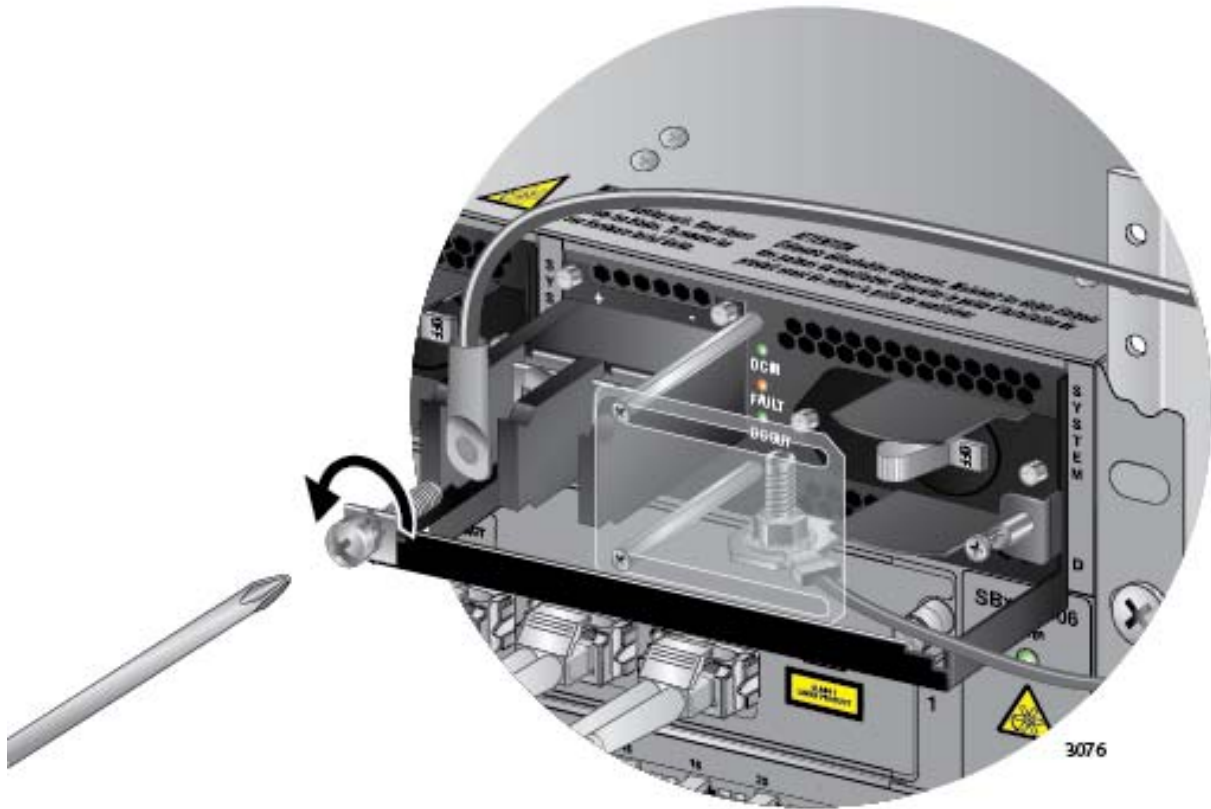

Figure 155. Removing the Positive Lead Wire from the Terminal Block
6. Use a #3 screwdriver to remove the positive (+) lead wire from the terminal block. Refer to Figure 155 on page 240.